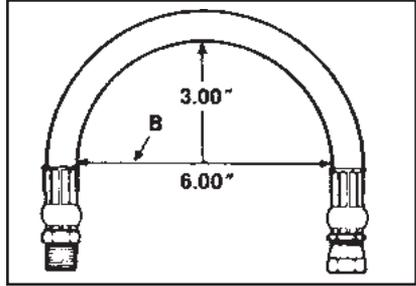

Fig. 7
9. Route hose and secure to stay out of the path (swing diameter) of the transmission output yoke. (Fig. 7)